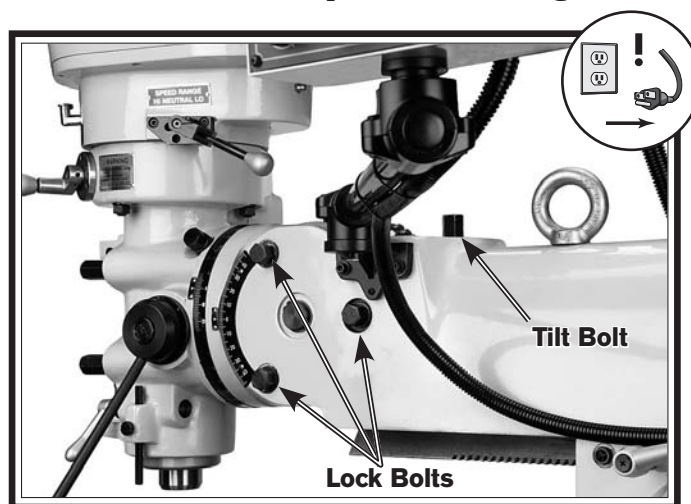

Figure 25. Head tilting controls.
2. Loosen the three tilt lock bolts on the right side of the ram adapter shown in **Figure 25**.